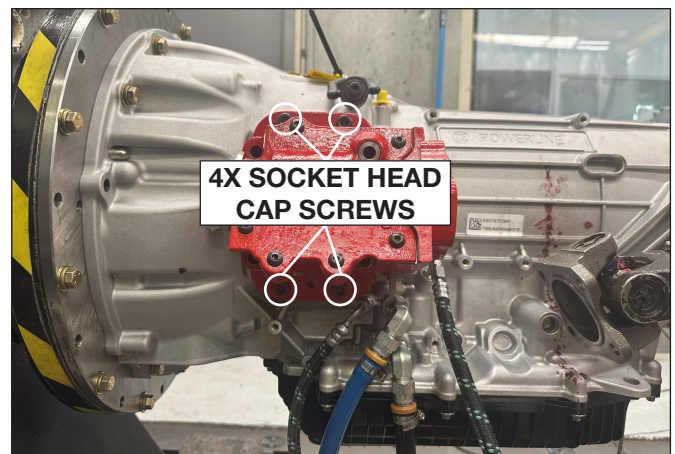

Figure 7
- f. Install four short socket head cap screws (M10-1.5 x 30 mm) provided in the stud kit. Using a criss-cross pattern, torque to 40-50 lb-ft [54-68 N-m]. (Required tools: 10 mm hex bit and socket wrench) (**Fig. 7**).